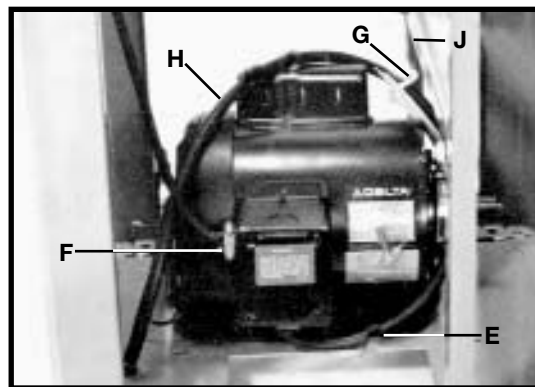

Fig. 5
3. Remove the two mounting screws that are holding the motor (F) Fig. 5 to the top of the stand. One screw is shown at (E) Fig. 5. **IMPORTANT: DO NOT REMOVE THE CABLE TIE (G) THAT HOLDS THE SWITCH CORD (H) TO THE VERTICAL MOUNTING BAR (J), UNLESS THE ACCESSORY HEIGHT ATTACHMENT WILL BE USED ON THE TOOL. THE CABLE TIE PREVENTS CONTACT BETWEEN THE SWITCH CORD AND THE MOTOR PULLEY OR BELT.**